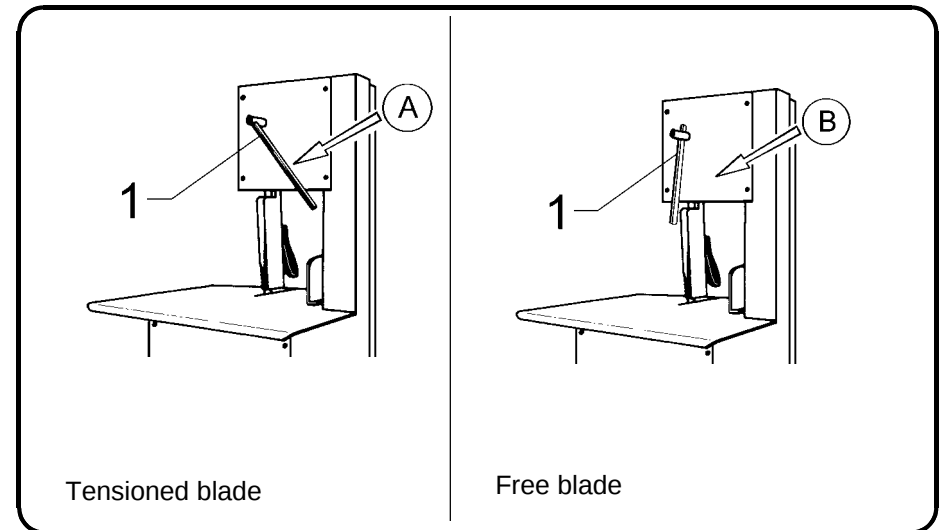

Fig. 7.6.1
7.6.2 Replacing the blade (Fig. 7.6.1)
- Stretch the blade rotating the knob in position “A” (Fig. 7.6.1).
7.6.1 Blade tensioning setting (Fig. 7.6.1)
Blade tensioning could be settled mechanically moving knob “1”. Rotate the knob in position “A” (Fig. 7.6.1) blade is tensioning. To unblock the blade rotate the knob in the position “B”.